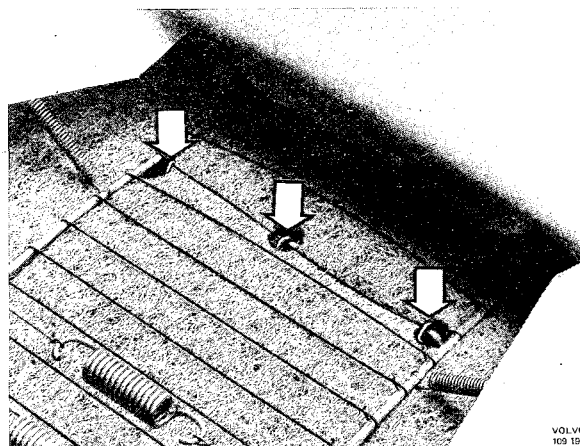

Fig. 8-59. Clamps
- B. Fold away the upholstery until three clamps are accessible. Cut and remove the clamps, see Fig. 8-59.